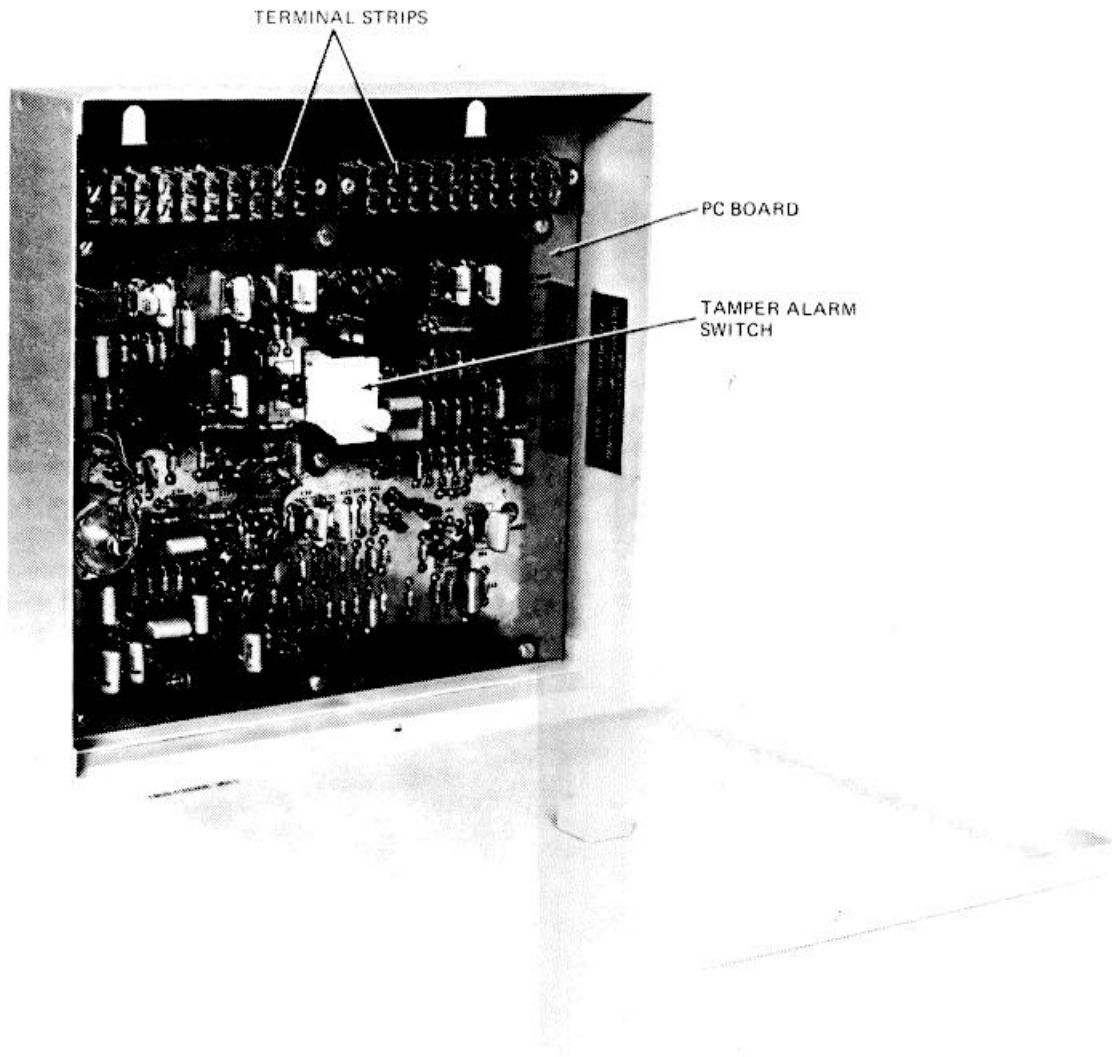

Figure 1-1. Ultrasonic Motion Signal Processor (Access Cover Removed)
- b. The Processor (fig. 1-1) consists of a printed circuit board (PC board) mounted inside a steel chassis. Mounted on the PC board are the tamper alarm switch (TAS), terminal strips for wire connec-